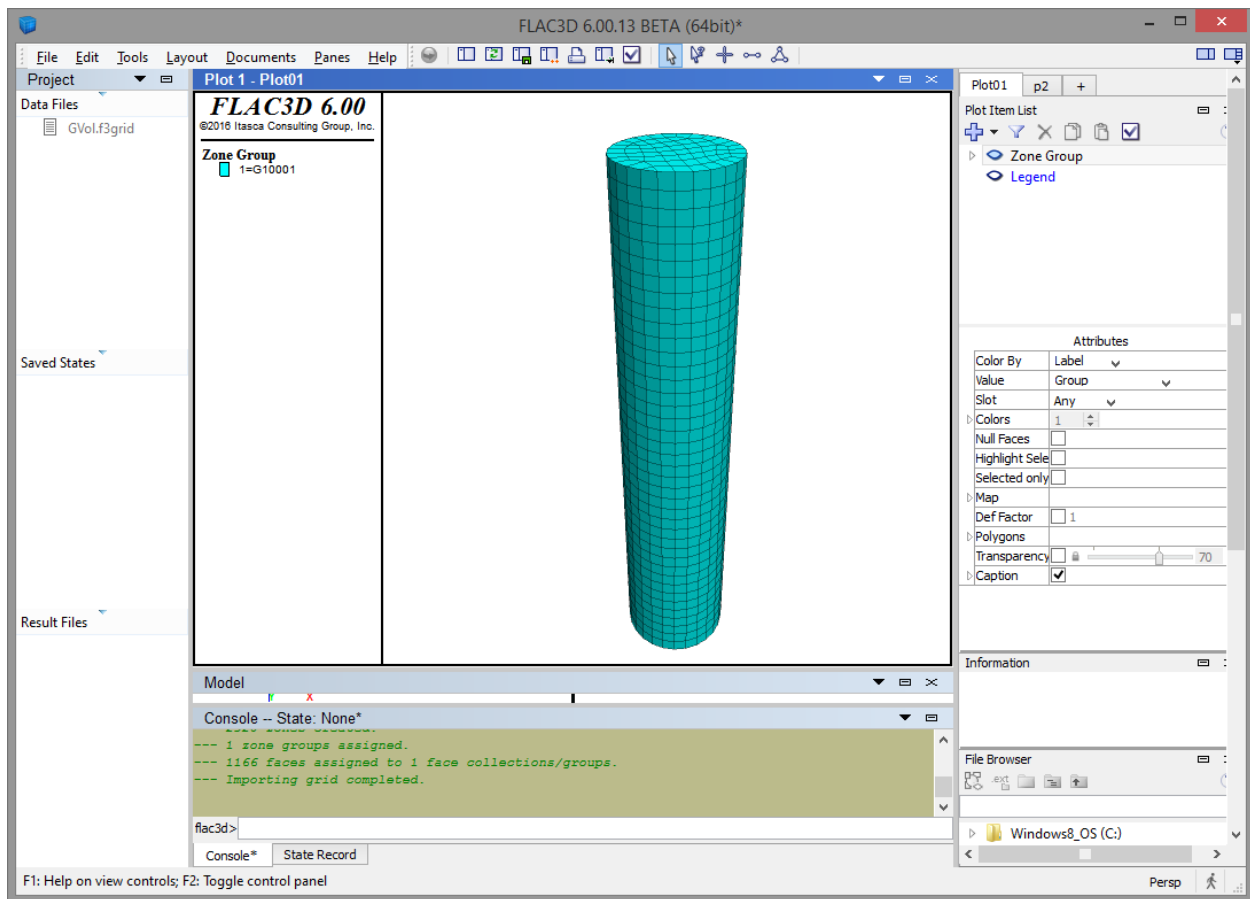

Figure 34: Volume mesh of cylinder read into *FLAC3D*.
8. Select the mesh generated in the above step and type **_GVol**. Select **Mode:ConHexDom** and **FLAC3D** output. Press **Enter**. **_GVol** will generate a conformal hex dominant and will output, in your current working directory, an ASCII file named **GVol.f3grid**. This file can be imported into *FLAC3D* using *FLAC3D*'s **File|Grid|Import** (Figure 34).